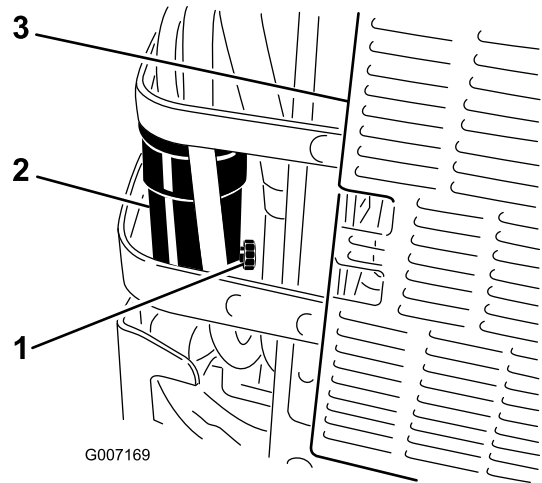

Figure 54
6. Open the drain valve on the water separator approximately one turn to allow water and other contaminants to drain (Figure 54).
7. Close the drain valve when only diesel fuel comes out (Figure 54).